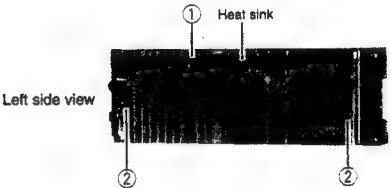

Fig. 3
- ◆ **Removing the heat sink** (See Fig. 3)
1. Remove one screw ① retaining the IC to the heat sink.
2. Remove two screws ② to remove the heat sink.